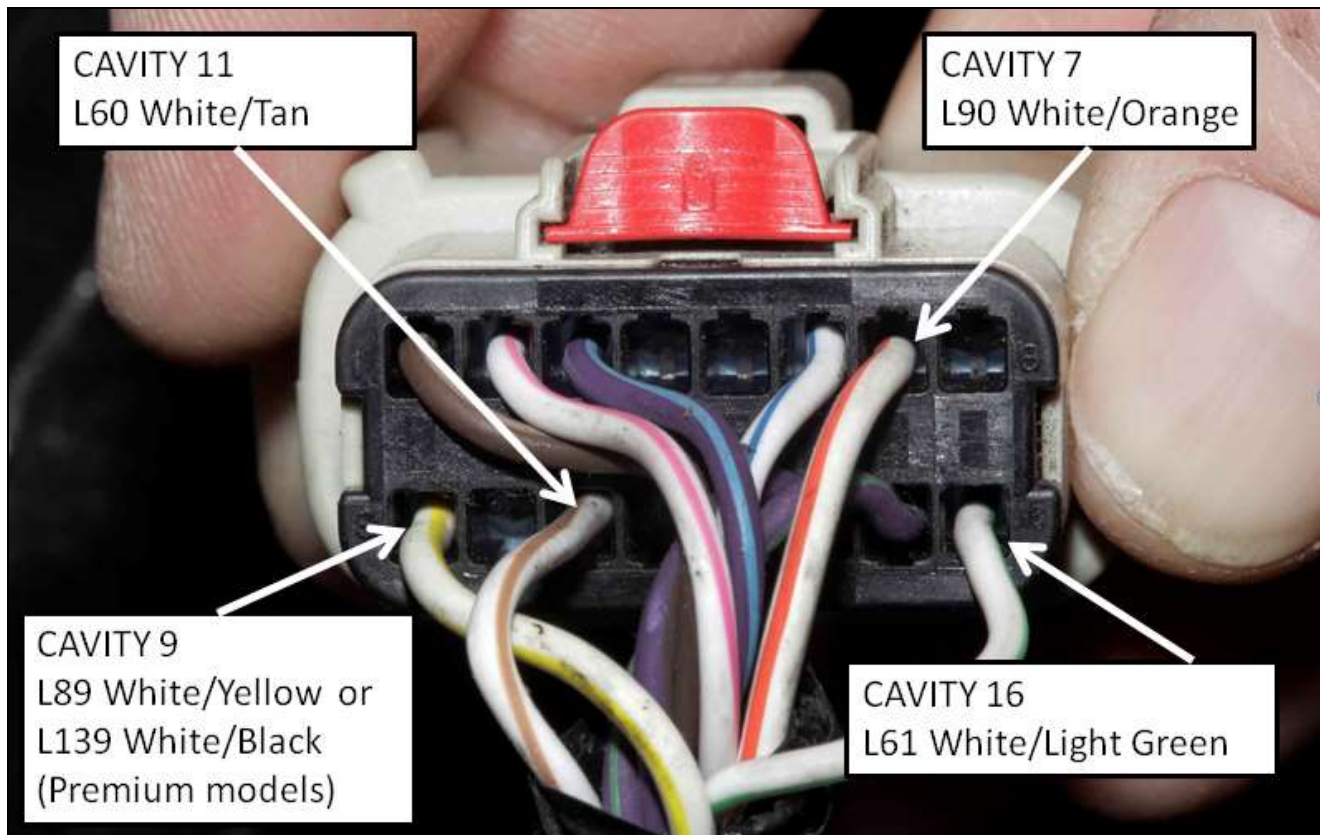

Figure 4
15. Verify the wire in cavity 7 is White with Orange (if Fog Lamp equipped) and the wire in cavity 11 is White with Tan (Figure 4).